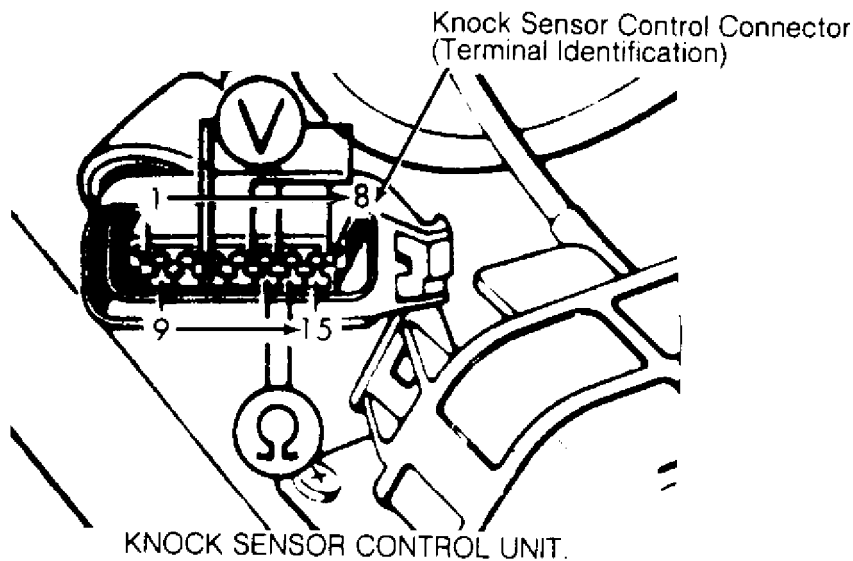

Fig. 12: Identifying Knock Sensor Control Unit Terminals
1) Check ignition coil and Hall Effect sender before checking knock sensor control unit. Remove knock sensor control unit harness connector. Turn ignition on. Using a voltmeter, check for battery voltage between terminals No. 3 and No. 5, and terminals No. 6 and No. 3 of knock sensor control unit. See Fig. 12. Open throttle valve. Voltage should drop to zero volt.
Before replacing knock sensor, check knock sensor torque and resistance. Remove knock sensor connector and check resistance between terminals No. 13 and No. 14. See Fig. 12. See KNOCK SENSOR RESISTANCE & TORQUE SPECIFICATION table. If resistance is incorrect, replace knock sensor.